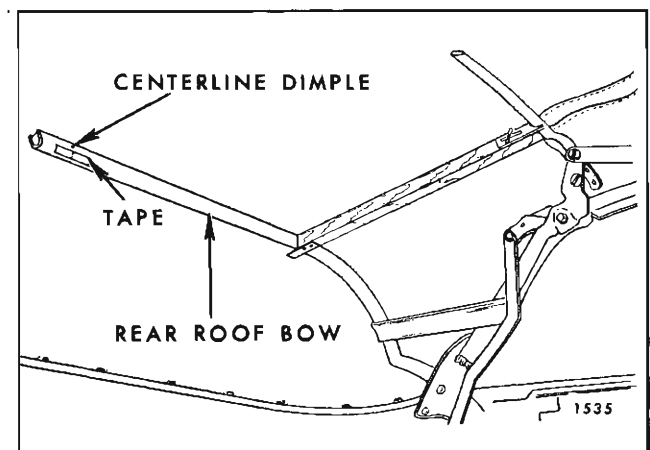

Fig. 5-I-34—Marking Rear Roof Bow
5. Along forward surface of rear roof bow install a 1" piece of tape at centerline dimple of rear roof bow. Using a pencil, mark centerline of rear bow on tape (Fig. 5I34).